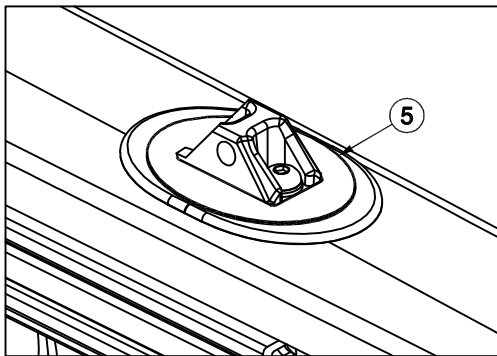

Fig. 6
7. Place the Gasket on the Bases as shown. (See Fig. 6) Repeat for all locations.